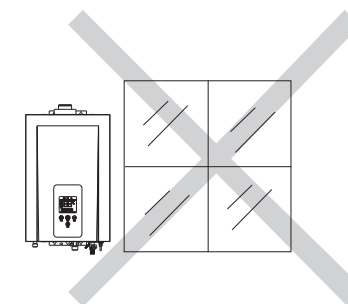

Figure 12
7. The exhaust pipe outlet should not be installed on the wall with open windows, Because during use, if the window is opened, the exhaust gas may flow back to the room, causing a safety hazard (Figure 12).